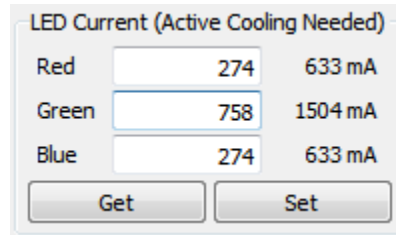

Figure 2-27. DLP LightCrafter GUI LED Current Setting Active Cooling Needed
- If the value is above 274, a note is added to the LED current title to inform the user that active cooling is needed. See Figure 2-27.